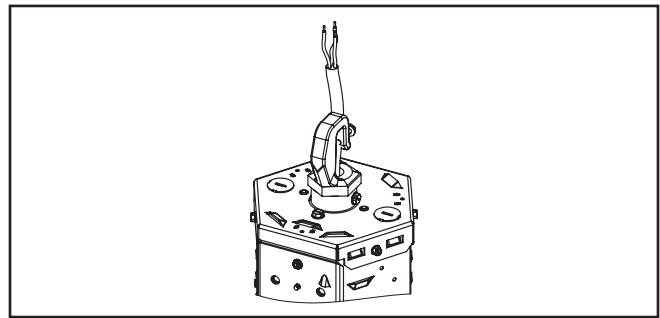

Figure 8.
2. Thread hook or loop for mounting (Figure 8).